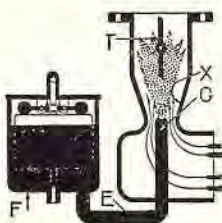

Fig. 17 A
Fig. 17. The illustration shows a simple type of "single jet" carburetor at rest. Note that the gasoline in the jet (G) is level with the gasoline in the float chamber (F). Throttle (T) is closed. The more we close the throttle, the more we prevent the cylinder from filling with gas.